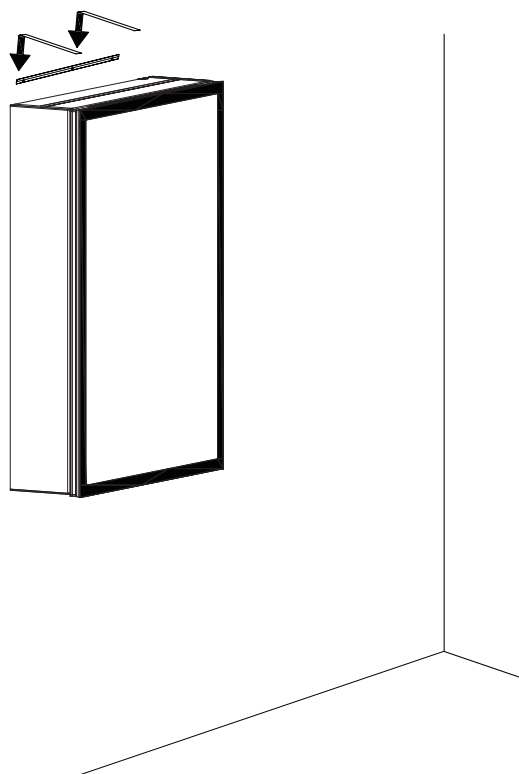

Fig. 7
- 2.3 Finally, turn on the main switch, and test if the switch works normally (Fig. 7).